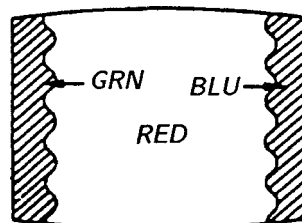

Fig. 3-2.
5. Move the deflection yoke back, and adjust the purity control so that R is in the center and G and B are at the sides, evenly. (Figure 3-2.)